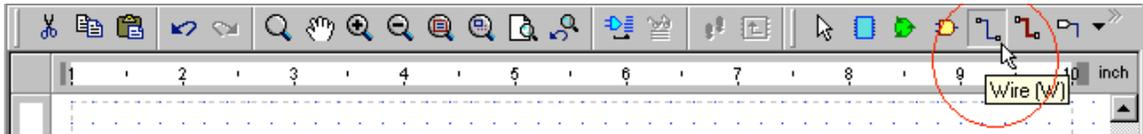

Figure 20
1. Click on the Wire icon in the toolbar (see Figure 20).